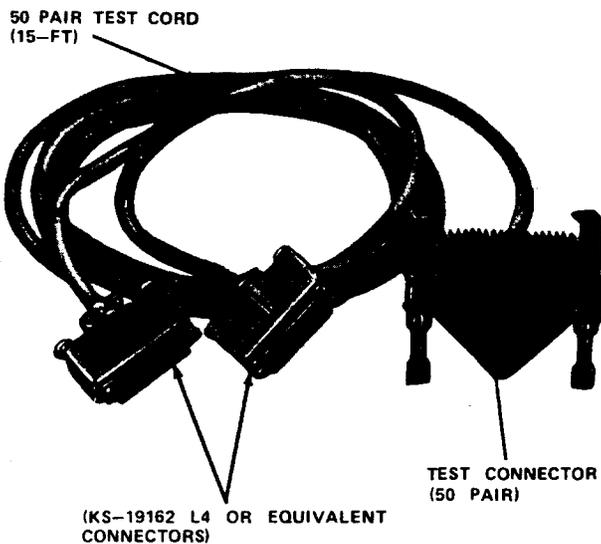

Figure 11—C-4920 or C-4930 Multiple Pair Test Connectors—For 303- and 302-Type Connectors
2.12 The C-4920 multiple pair test connector is used on the 303-type connector and the 302-type 4 connector. The C-4930 multiple pair test connector is used on the 302-type 1 connector. The multiple pair test connectors (Figure 11) contain 100 (50 pairs) spring-loaded contacts that are internally connected to a 50-pair, 15-foot long cable. The cable terminates on two 25-pair KS-19162, L4 (or equivalent) connectors for attachment to automatic pair identification equipment. One of the KS-19162, L4 connectors is numbered 1-25 and 51-75 and the other is numbered 26-50 and 76-100 for use on either test field of the 303- or 302-type connectors to identify the respective cable pair count.